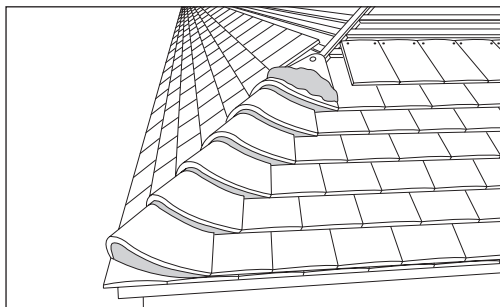

Fig 54 – Bedded bonnet hip tiles
- Straight cut tiles adjacent to each side of bonnet hip to maintain bond and fix with 70mm x 3.35mm aluminium nails (Fig 54).